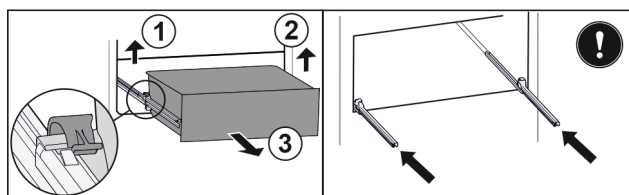

Fig. 115
- Lift left clamp and simultaneously pull drawer forwards on the left. *Fig. 115 (1)*
- Lift right clamp and simultaneously pull drawer forwards on the right. *Fig. 115 (2)*
- Remove drawer to the front. *Fig. 115 (3)*